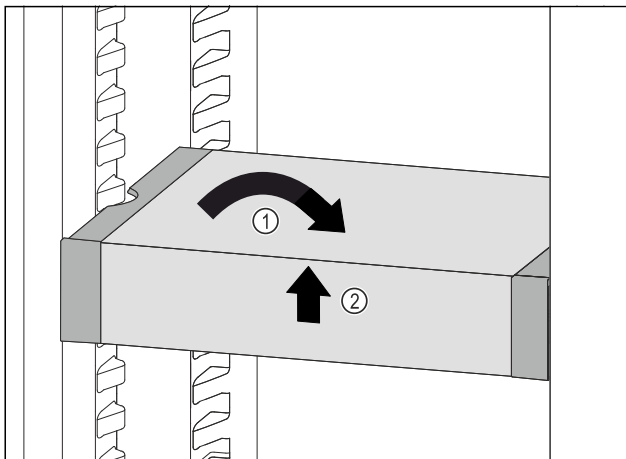

Fig. 83
- ▶ Set VarioSafe straight. Fig. 83 (1)
- ▶ Lift VarioSafe at the front. Fig. 83 (2)